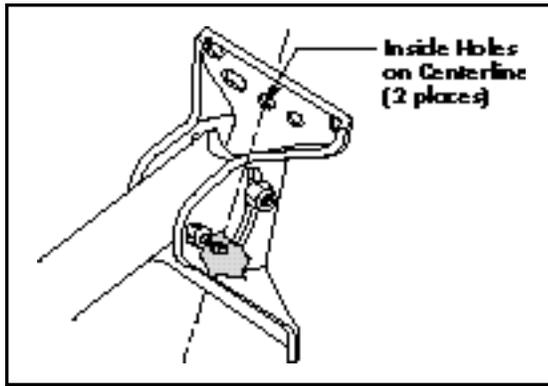

FIGURE 2A
- When attaching to masonry structures, use the four corner outside holes in base bracket and four appropriate $\frac{1}{4}$ " double-expansion anchors or toggle bolts with flat washers (not included). See Figure 2A.